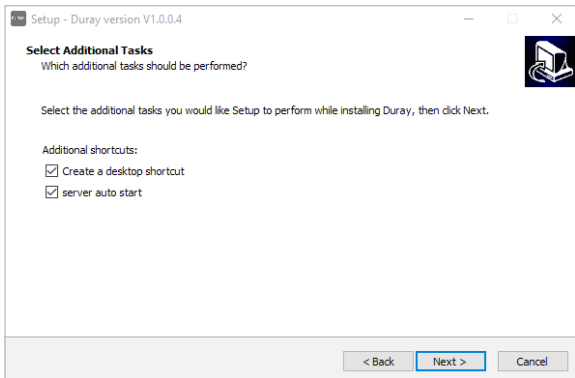

Figure 5
d) Set whether to create a desktop shortcut and server auto start, click the “Next” button after completion, as shown in Figure 5: